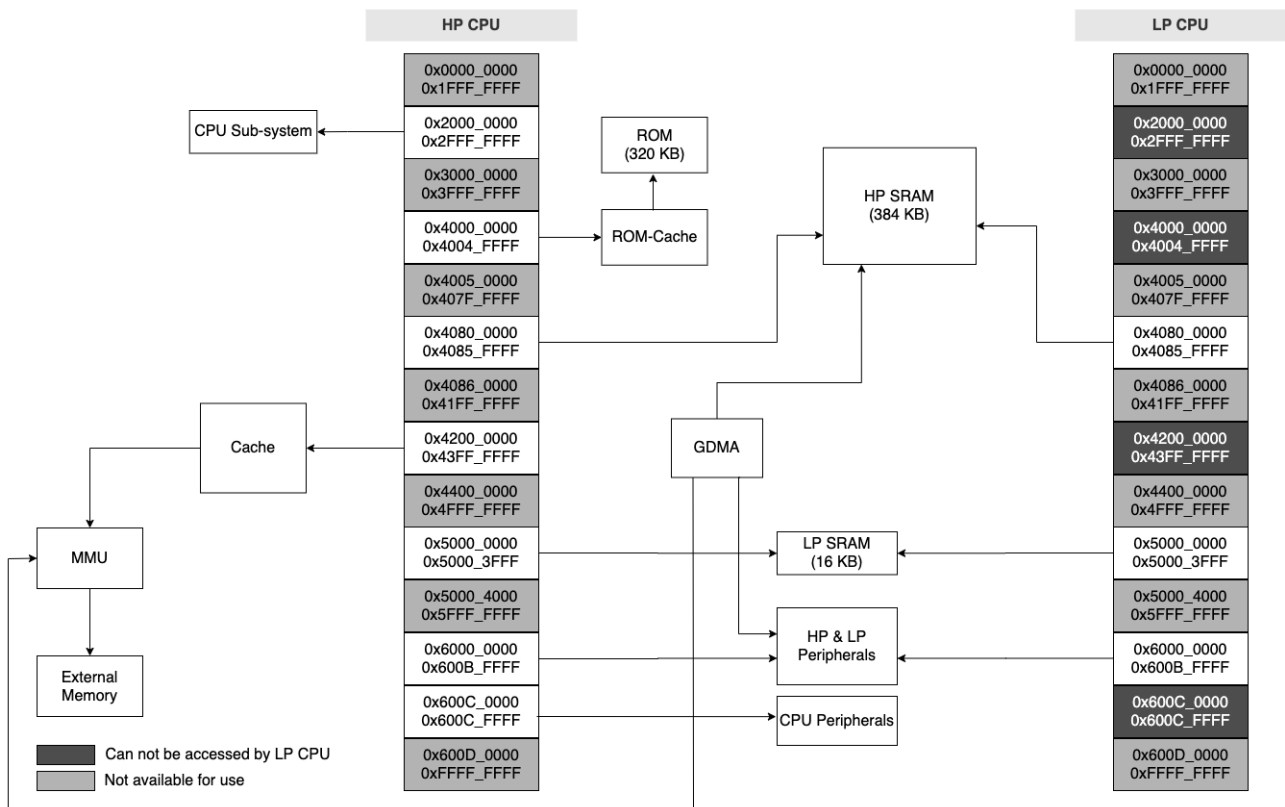

Figure 4.3-1. System Structure and Address Mapping
Figure 4.3-1 illustrates the system structure and address mapping. All the non-reserved addresses are accessible via both the instruction bus and the data bus, meaning that the instruction bus and the data bus share the same address space.
- Some of the address space can only be accessed by the HP CPU, not by the LP CPU, as indicated in Figure 4.3-1. This part of the address space will not be specifically distinguished in the following sections.